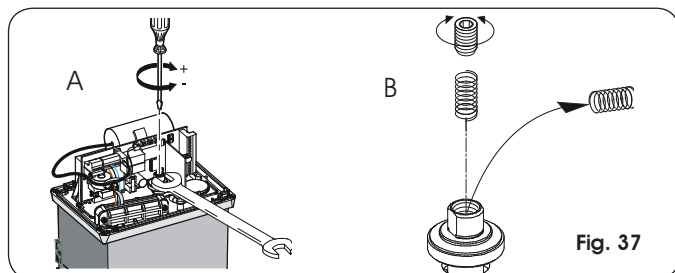

Fig. 37
2. Keep the motor shaft locked with a wrench and turn the clutch adjustment screw with an Allen wrench or screwdriver as shown in Fig. 37 Ref. A.
➡ **The operator is supplied as standard with a clutch adjustment spring for gates up to 2200 lbs. For heavier gates, use the supplied alternative spring. For spring replacement instructions, see Fig. 37 Ref. B.**